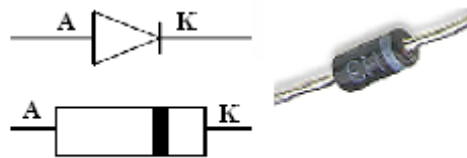

Figure 1: Diode.
From examining Figure 1, you should note that the **Anode (A)** corresponds to the P-type side while the **Cathode (K)** corresponds to the N-type side of the diode.